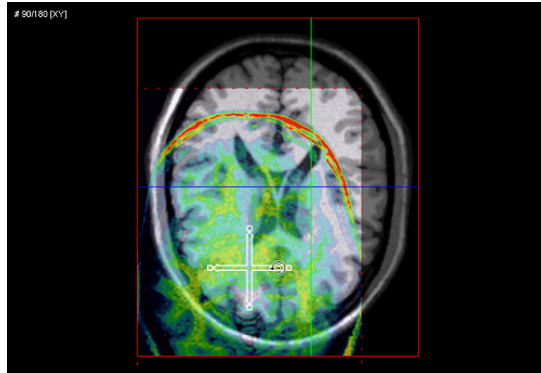

Figure 17.3: Rotate tool of the manual registration tool in the *Multiplanar Viewer*
- In the XY [Axial] viewer, move the mouse pointer over the outer third of the manipulator until the pointer turns into the rotate symbol (see Fig. 17.3).